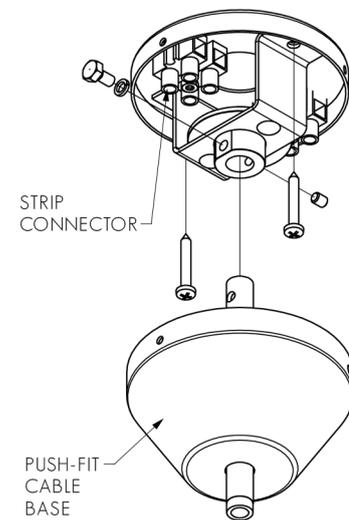

FIG. 5 - ENSURE SUSPENSION RODS ARE TIGHTLY SECURED
4. LIFT LIGHT ASSEMBLY AND INSERT SUSPENSION RODS INTO CEILING BRACKETS, STARTING WITH THE POWER SUPPLY END. ADJUST REMAINING ROD SUSPENSION POSITIONS BY LOOSENING COLLARS AND REPOSITIONING. LOCK IN TO PLACE BY TIGHTENING GRUB SCREW ON ONE SIDE AND HEX HEAD SCREW ON OTHER SIDE. ENSURING HEX HEAD SCREW FITS THROUGH 4MMØ HOLE IN SUSPENSION ROD. (SEE FIG. 5)